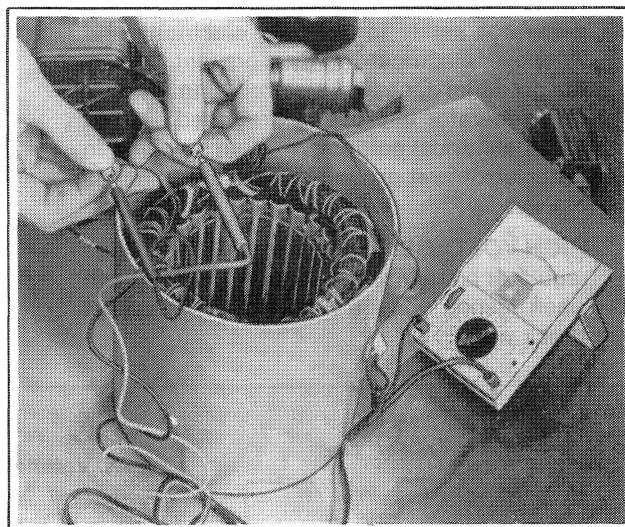

Figure 5-3. Checking Stator Continuity
1. To check stator continuity, set ohmmeter on 1 ohm ($1 \times \Omega$) scale. Figure 5-3. Contact red and black meter leads; adjust meter to zero ohms. Check stator continuity, contacting meter leads to stator leads.